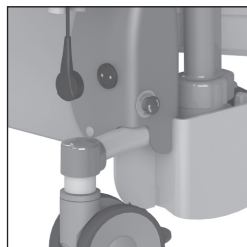

Figure 15. Charging point.
- The charging point is located on the front of the chair, on the blue cover on the underside of the device (See figure 15).
- Connect the charger to the Elexo XXL (See figure 15).